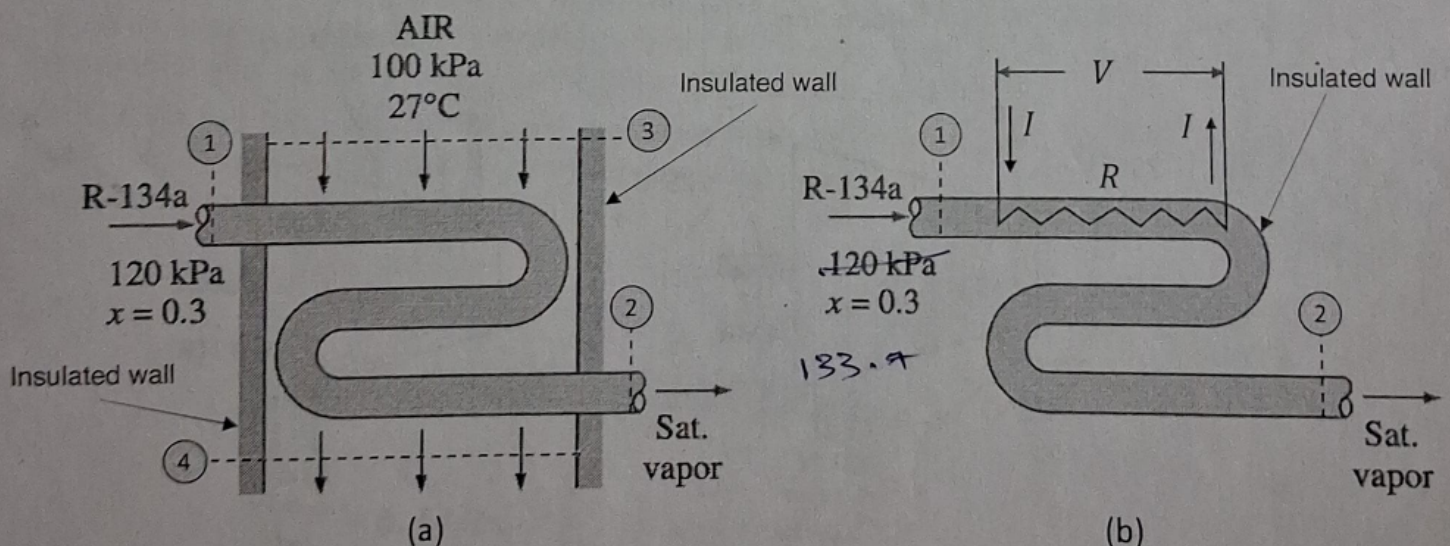

Figure 4
- (a) Consider the Fig. 4(a), where the evaporator uses air for heating. Air steadily enters the evaporator section at 100 kPa and at an average temperature of 27°C with a volume flow rate of $6 \text{ m}^3/\text{min}$. The average temperature of the outer surface of the evaporator pipe carrying $R-134a$ is roughly at $T_{out} = 32^\circ\text{C}$.
- (b) Consider the Fig. 4(b), where the evaporator is heated by an electric resistance heater, where a current I is flowing steadily over a potential difference of V and the resistance of the part of the circuit inside the evaporator is $\tilde{R}$. The outer surface of the evaporator pipe is insulated for this case.